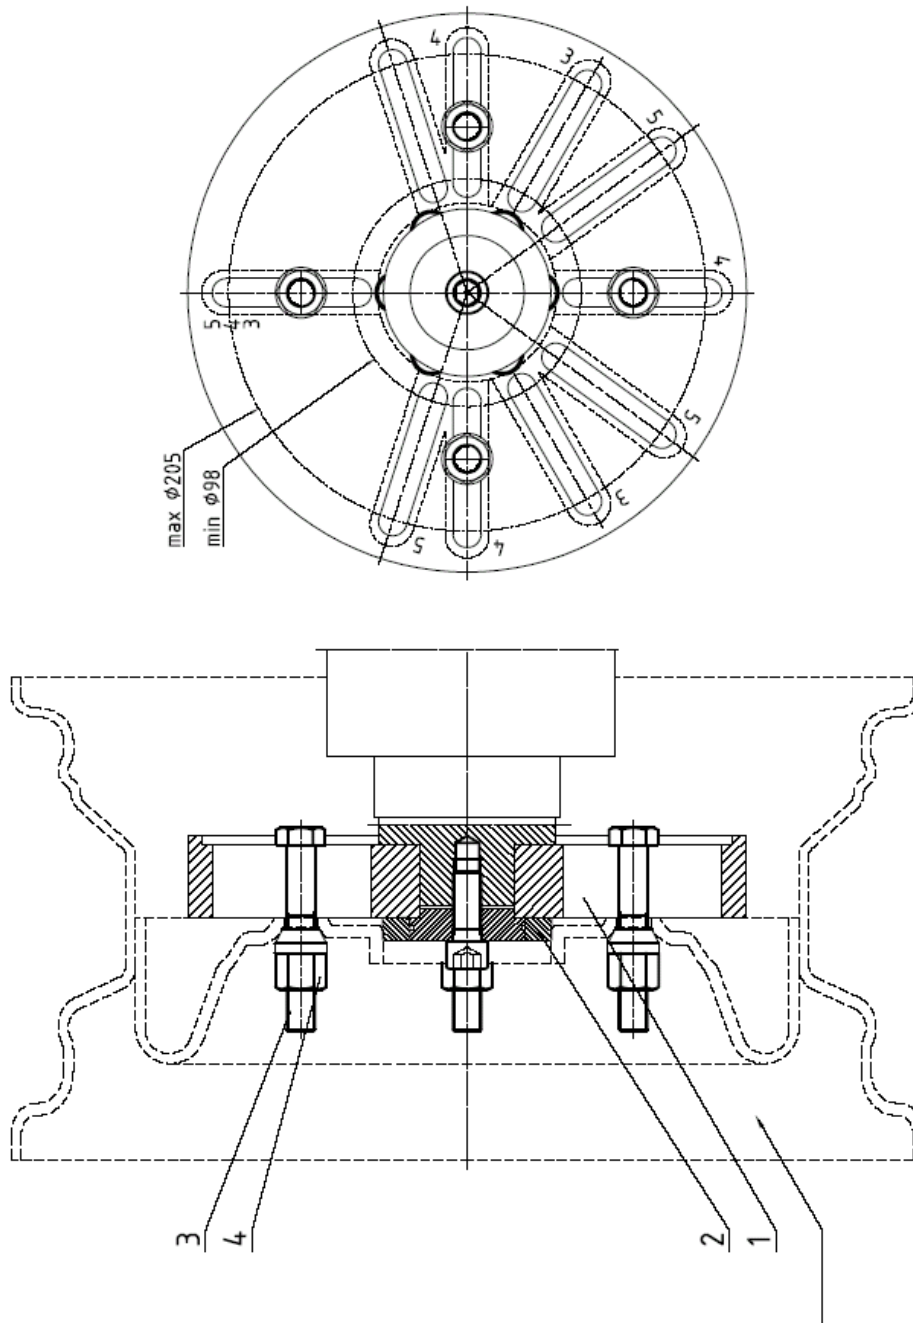

Fig. 4. Machine's spindle with straightened rim
The machine is supplied with the hydraulic system to mount wheel rims. Clamping is carried by the hydraulic servo-motor set in the central position by means of a suitable adapter - figure 4.
11.2 MOUNTING AND DEMOUNTING SYSTEM OPERATION (Figure 4)
- Choose the proper mechanical pressure (Fig.4 no.1) for the rim which is going to be straightened.
- On the spindle (Fig.4 no.2), slide the centering ring (Fig.4 no.3) with the outer diameter adapted to the diameter of central hole of rim.
- Slide the rim until it leans on the flange of adapter (Fig.4 no.4).
- Slide the mechanical pressure (Fig.4 no.1) on the spindle (Fig.4 no.2) until the bolts (Fig.4 no.6) are set in the holes of the screws which fix the wheel to the car's hub.
- Put the washer (Fig.4 no.7) on the spindle (the flat side to mechanical pressure) between the mechanical pressure and the nut of adapter (Fig.4 no.8).
- Turn the nut of adapter (Fig.4 no.8) manually.
- Press and hold the button (Fig.2 no.5) on the control panel (Fig.2) until can be possible unscrew the nut (Fig.4 no.8) of adapter.
- Remove the washer (Fig.4 no.7).
- Take off the mechanical pressure (Fig.4 no.1) and then the repaired rim.